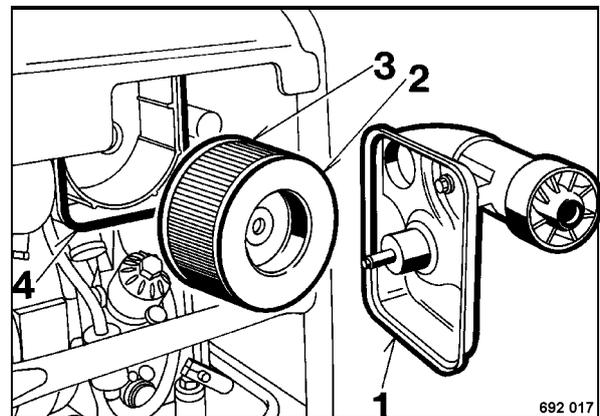

Fig. 56
- Insert the filter cartridge 3 (Fig. 56) with the covering disc (2) into the housing.
- Install the filter cover (1) and ensure correct fit of cover and seal (4).